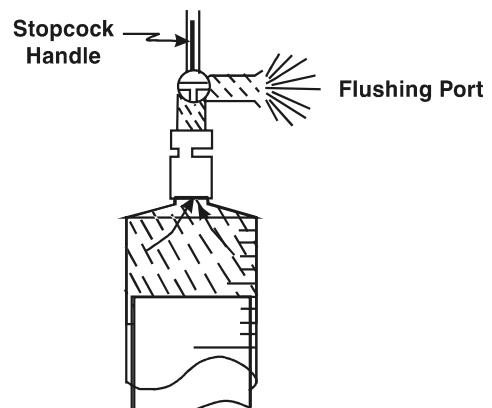

Figure 28.—Sample Syringe Bubble Removal.
- Hold the syringe vertical and turn the stopcock up so that the handle points away from the syringe. Press the syringe piston to eject any air bubbles, but leave 1 or 2 cc oil in the syringe. See the accompanying figure 28.